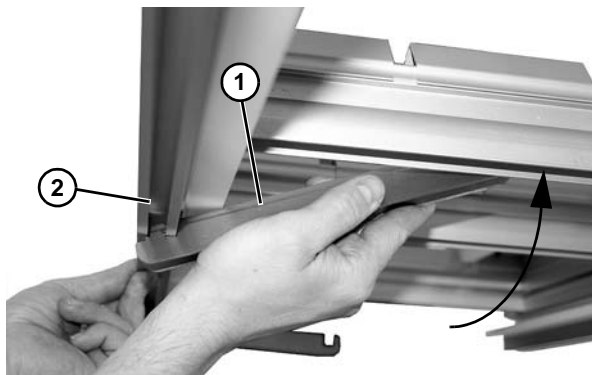

Figure 41
2. If necessary, rotate upward and remove bracket (**Figure 41, item 1**), from frame channel (**Figure 41, item 2**).